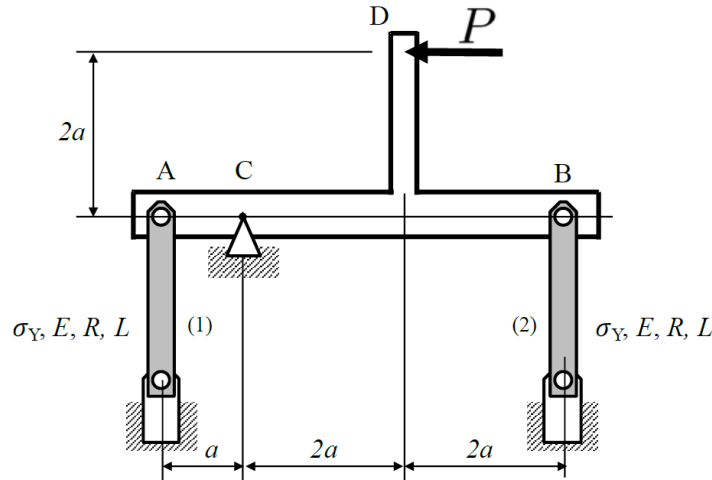

Figure 1
Two elastic elements (1) and (2) are connected to the ends A and B of a rigid inverted T-shaped bar ABCD. Each elastic member has a Young’s modulus E , circular cross section of radius R , length L , and yield stress σ_Y . The rigid bar is pinned at C and a load P is applied at end D, as shown in Figure 1.